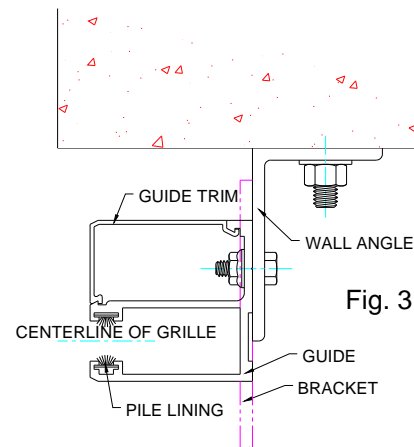

Fig. 3
8. Align the mounting holes in the guide extrusion with those in the wall angle. Mount the guide extrusions to the wall angles as in figure 3 with the stoppers upward and the bottom of the guide even with the bottom of the wall angle. It is important to assemble the guides according to the measurements on the shop sheet.
7. Align the mounting holes in the guide extrusion with those in the wall angle. Mount the guide extrusions to the wall angles as in figure 3 with the stoppers upward and the bottom of the guide even with the bottom of the wall angle. It is important to assemble the guides according to the measurements on the shop sheet.